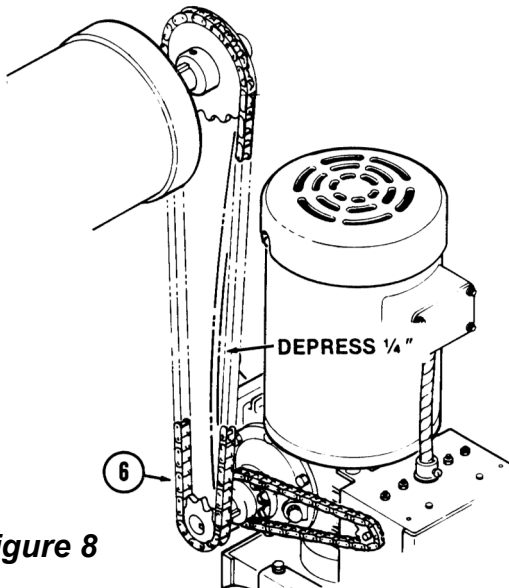

Figure 8
7. Adjust the drive chain tension such that there is no more than 1/4" slack when the chain is depressed between the sprockets. See **Figure 8**. The preferred mounting is with the motor end up and the opener below the door shaft. This results in better clearance for the hand chain and disconnect chain.